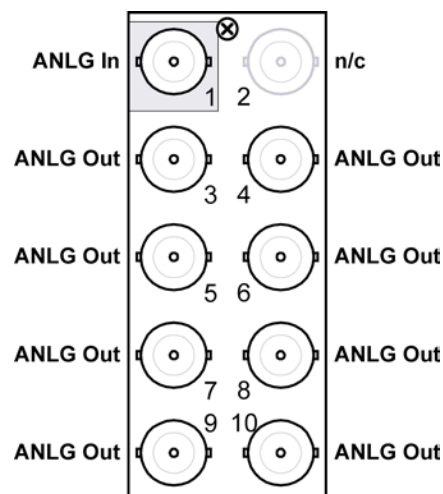

Figure 4. Cable Connections for the R1-8705 and R2-8705 Rear Modules
- **R1-8705** Full Rear Module — Each card provides eight outputs. The input must be terminated on the UDA-8705A using **JP1**. Refer to **Figure 4** for cable connections.
- **R2-8705 Full Rear Module** — Each card occupies two slots and provides eight outputs. The input must be terminated on the card by setting **JP1** to **TERM**. Refer to **Figure 4** for cable connections.